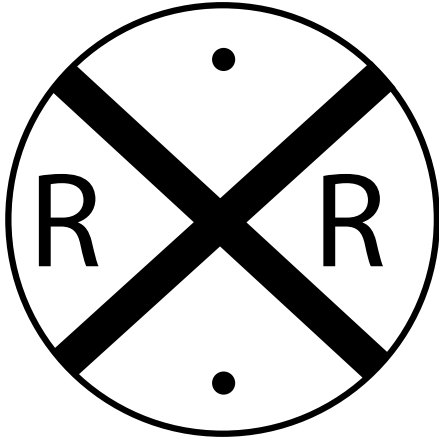

Figure 2.15
**Advance Warning Signs.** The round, black-on-yellow warning sign is placed ahead of a public railroad-highway crossing. The advance warning sign tells you to slow down, look and listen for the train, and be prepared to stop at the tracks if a train is coming. See Figure 2.15.